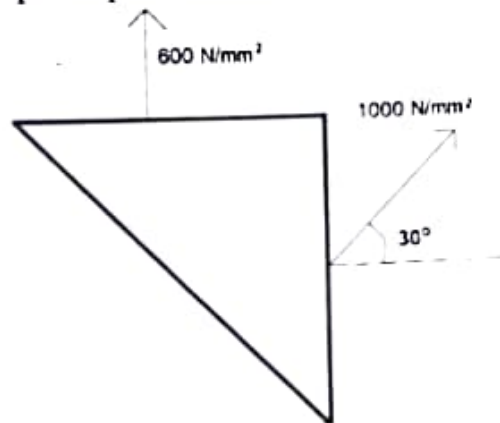

Fig. 2.
4. At a certain point in a material under stress, the intensity of the resultant stress on a vertical plane is 1000 N/mm^2 inclined at 30° to the normal to that plane and the stress on a horizontal plane has a normal tensile component of intensity 600 N/mm^2 , as shown in Figure 2. Determine the magnitude and direction of the resultant stress on the horizontal plane and the magnitude and directions of the principal stresses.